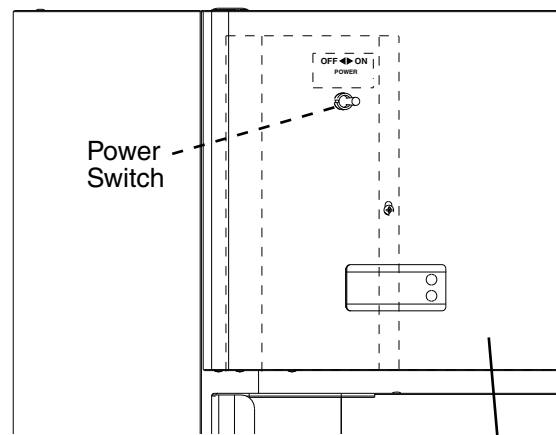

Fig. 4 Front Panel
- 1) Reach over the front panel to access the power switch—located on the front of the control box. See Fig. 4. Make sure the power switch is in the "OFF" position.